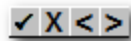

Figure 28: Template Definition Saving Options
- ◆ Saving options appear at the bottom of the graph (*Figure 28*).